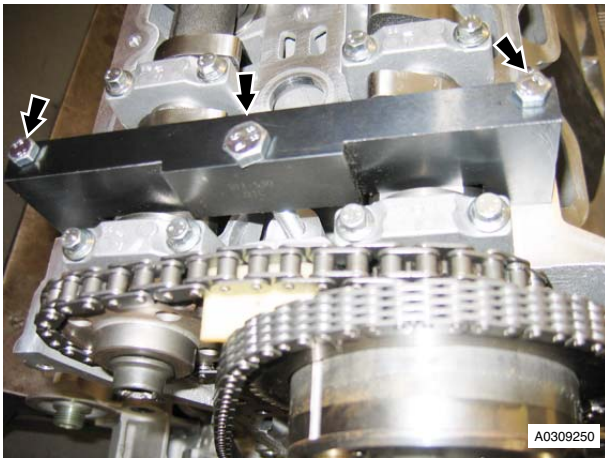

Figure 1 (Right Side Shown)
- Remove the special tool (refer to Figure 1 - Right side shown).